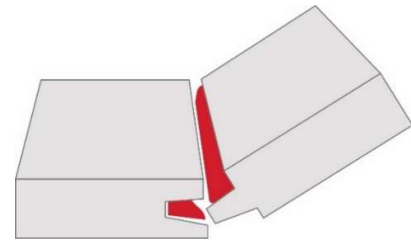

Figure 6
2. For preventing unpleasant floor squeaking noises in service, gluing in tongue and groove with a permanent elastic PU or PVAC glue from strength classes D3 (strong) or D4 (very strong) is recommended (figure 6).